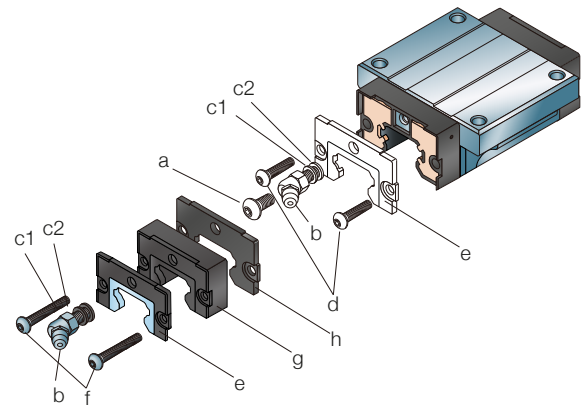

Fig. 30
1. Remove grease nipple (**b**) and washers (**c1**, **c2**) or the set screw (**a**) (↳ **fig. 30**)